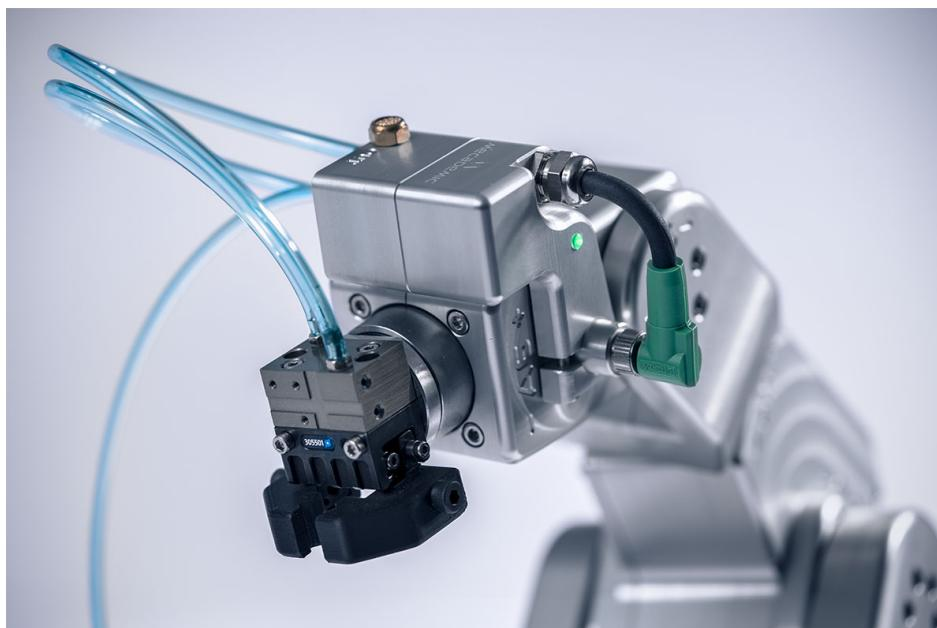
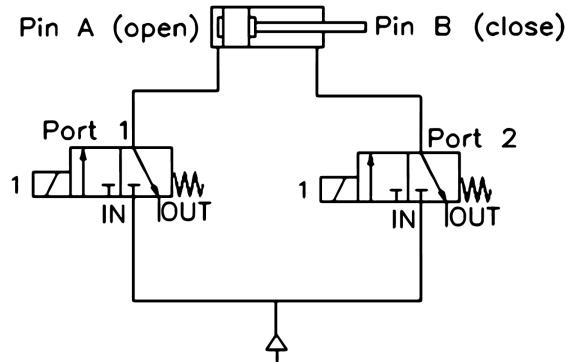

Figure 4: Pneumatic module connected to the Meca500 and to a double-action pneumatic gripper
Figure 5: Pneumatic circuit in the case of a double-action pneumatic gripper
6. After activation of the Meca500, the green LED on the module should emit steady light, indicating that the electrical connection is functional, as shown in Figure 4.
To connect your MPM500 to a double-action pneumatic gripper, as in Figure 4, follow the circuit of Figure 5. The compressed air should be introduced in the MPM500's IN port. It will be distributed to both 3/2 NC valves. The solenoid switch activates one valve which allows for the gripper to open/close its fingers, depending on which valve is activated. The gripper's pneumatic connectors should go in the MPM500's Port 1 and Port 2.